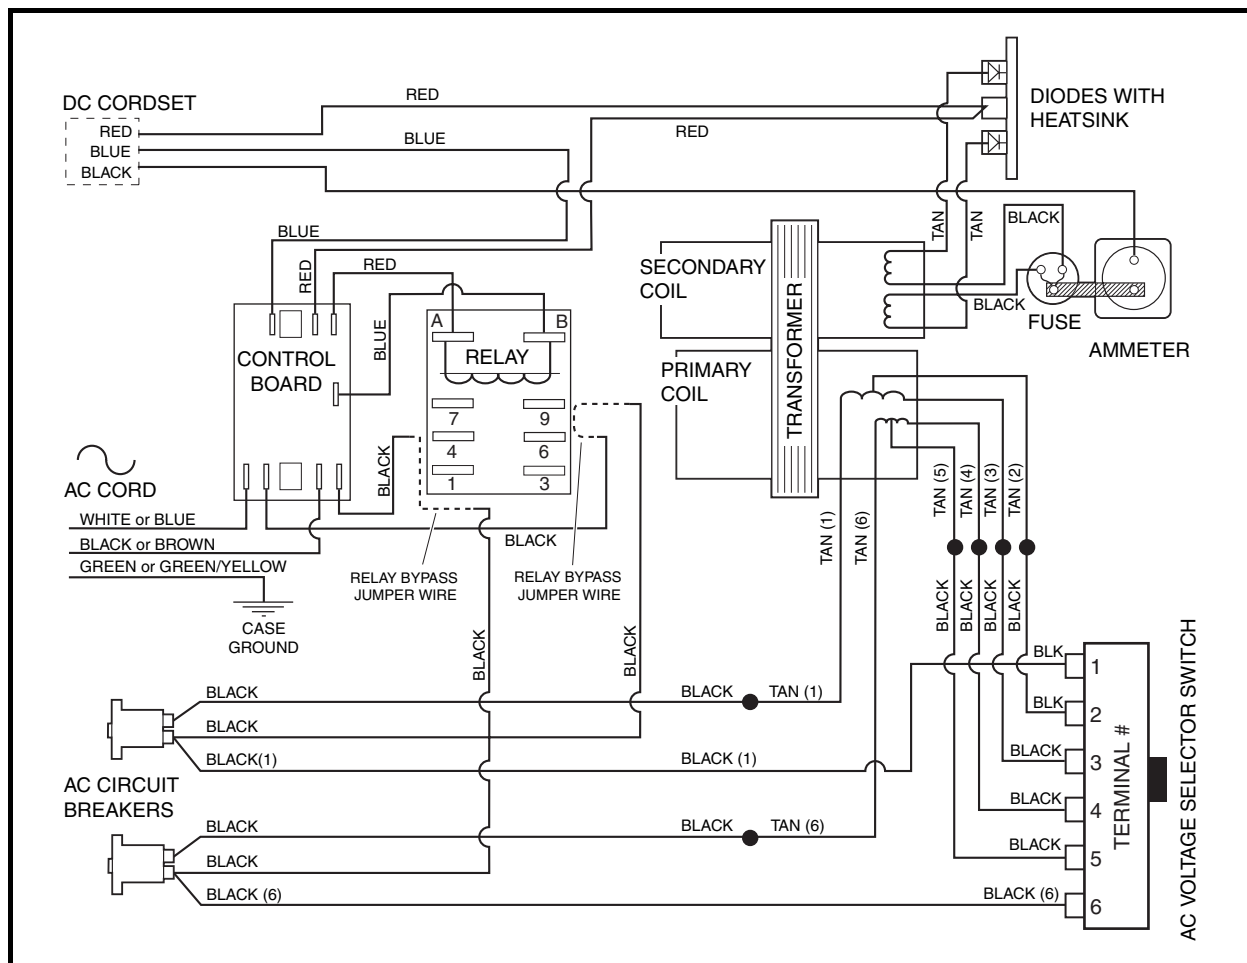

Figure 6-22 IQ Plus Onboard Charger Wiring Diagram (Relay Bypassed)
- 4.1. To bypass the relay, locate the black wire that goes from the circuit breaker to terminal 9 on the relay. Disconnect the black wire from the relay terminal (**Figure 6-22, Page 6-33**).
- 4.3. Use a jumper wire with alligator clips to connect the black wire from relay terminal 9 to the black wire from relay terminal 6 (**Figure 6-22, Page 6-33**).
- 4.6. Use a jumper wire with alligator clips to connect the black wire from relay terminal 7 to the black wire from relay terminal 4 (**Figure 6-22, Page 6-33**). **See following DANGER.**
9. Disconnect the jumper wires from the relay wires and connect each wire to the original terminal on the relay (**Figure 6-22, Page 6-33**). **See following WARNING.**